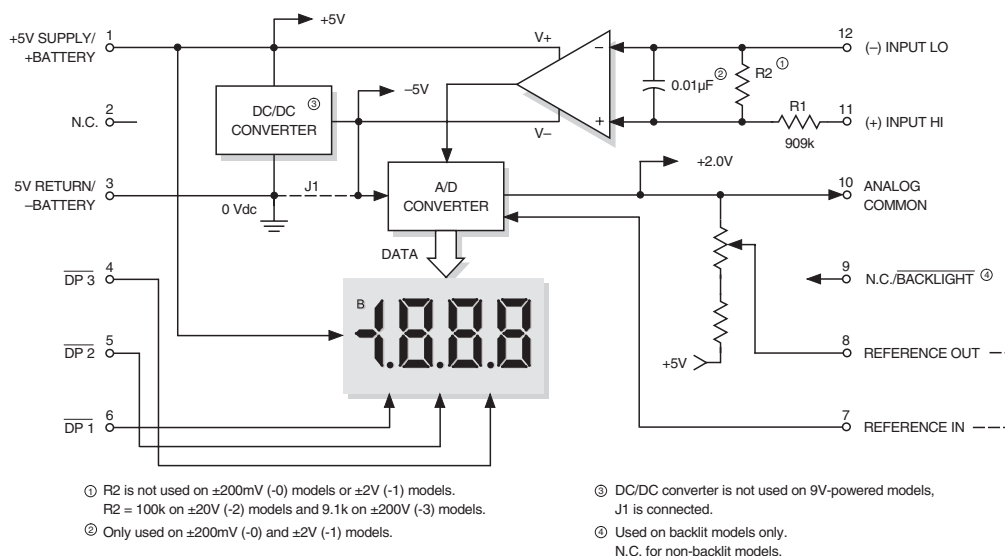

Figure 1. DMS-20LCD Series Simplified Schematic
- ① Applies for transient or continuous overvoltages applied to (+) INPUT HI (pin 11) with (–) INPUT LO (pin 12) properly connected. Pin 12 is not overvoltage protected (see Figure 1). Voltages applied to pin 12 should not exceed the supply voltage.
- ② Listed spec applies to 5V-powered models only. For 9V-powered models, both (–) INPUT LO (pin 12) and (+) INPUT HIGH (pin 11) must always be at least 1.5V above –BATTERY (pin 3) and at least 1.5V below +BATTERY (pin 1).
- ③ See Technical Notes.